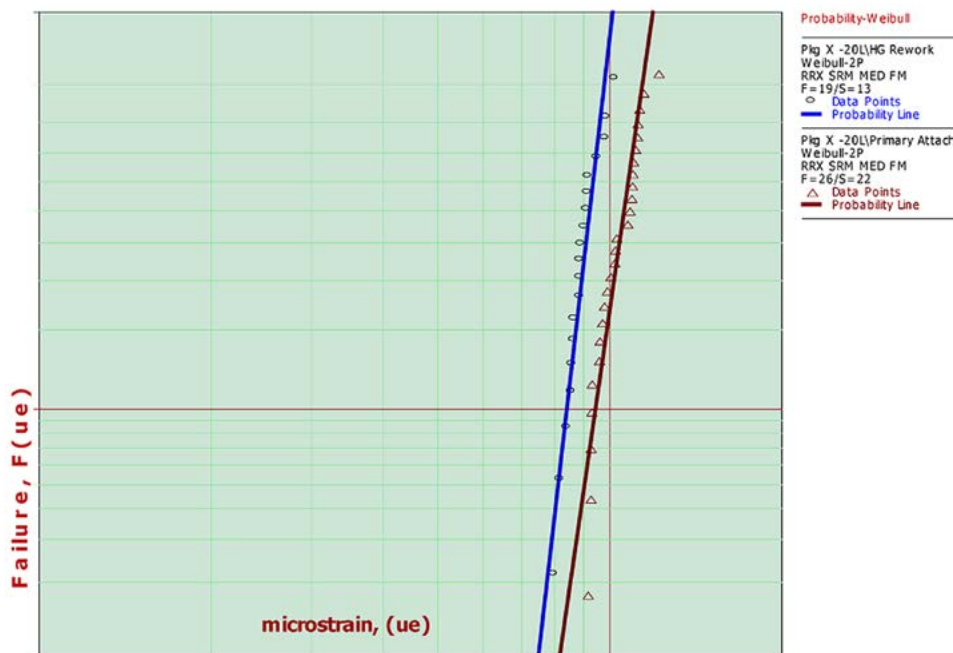
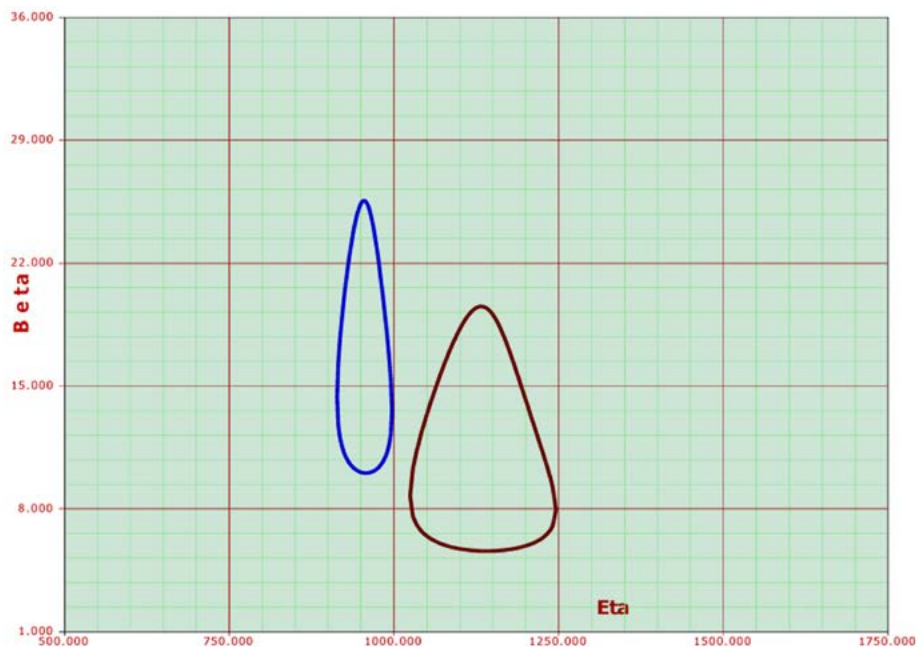

Figure 9: Weibull distributions for thermal excursion lots.
Figure 10: 95%CC for thermal excursion distributions.
The Weibull distributions shown in Figure 9 are well formed. When reviewed together with the 95% confidence contours (CC)s displayed in Figure 10 they clearly define a statis-